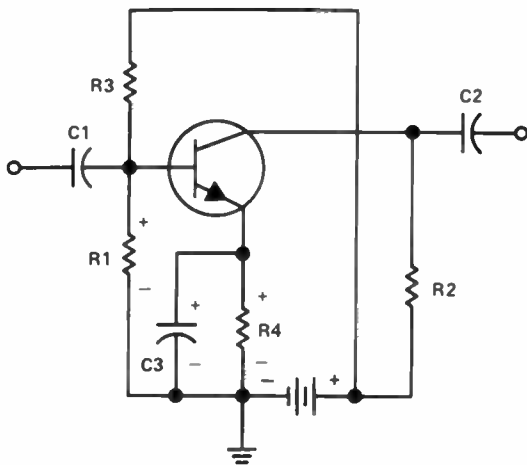
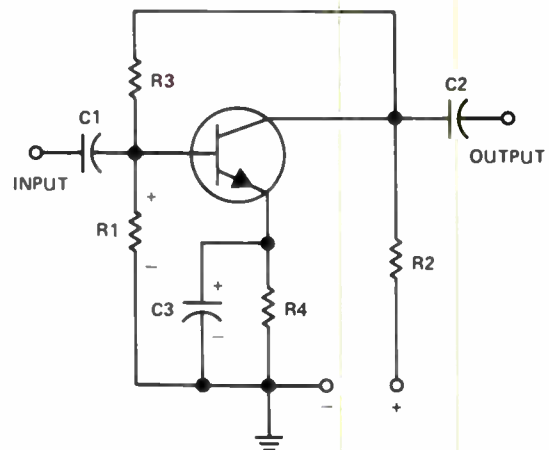
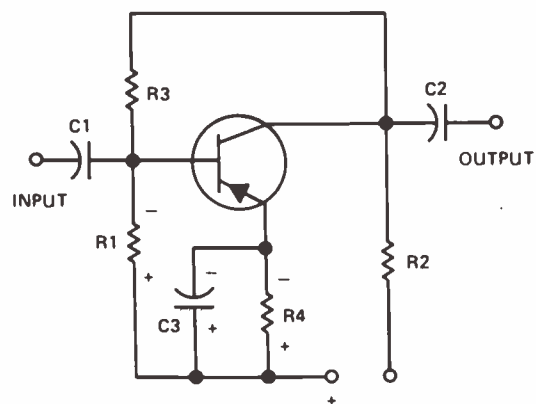
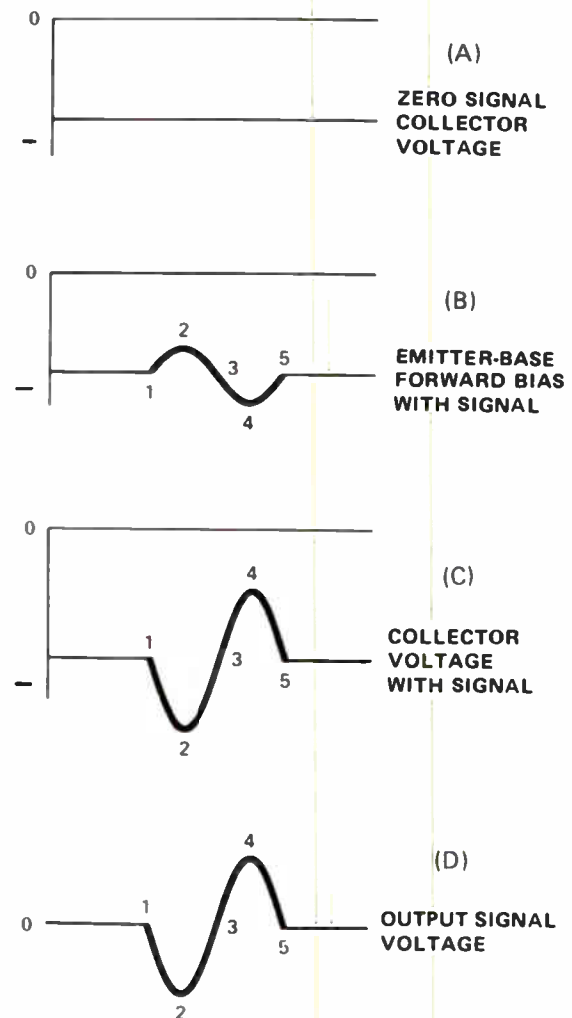

Figure 4. A common-emitter circuit with bias stabilization.
Figure 5. A common-emitter with degeneration.
Figure 6. A common-emitter circuit using a pnp transistor.
Figure 7. Waveform for Fig.6.
This problem can be avoided by adding R4, as shown in Fig.4. Notice that current flowing through R4 develops a voltage so that the emitter is slightly positive with respect to ground. If the minority carriers crossing the emitter-base junction cause the voltage drop across R1 to increase, any increase in majority carrier flow through the transistor increases the voltage drop across R4. Thus, both the base and the emitter of the transistor become more positive. The increase in positive voltage between the emitter and ground effectively cancels the increase in voltage between the base and ground, and stabilizes the bias. This prevents further increases in non-signal current through the transistor.
Another variation of the basic circuit is shown in Fig.5. Notice that we've eliminated the battery
It is important to notice that even though the voltage at the collector of the transistor is about half the voltage at the positive input terminal, we can still maintain a forward bias across the emitter-base junction simply by changing the values of R1 and R3. For that matter, just reducing the value of R3 will reduce the voltage drop across it so that we could maintain the base voltage in the circuit of Fig.5 at exactly the same value as the base voltage in the circuit of Fig.4.
Figure 6 shows the schematic diagram of a common-emitter amplifier using a pnp transistor.
Notice that the polarity of the voltage source is reversed so the positive terminal is grounded and negative voltage goes to the collector through R2. This reverses the polarity of the voltage across R1, so the base is negative with respect to the emitter, a necessary condition to forward bias the emitter-base junction of a pnp transistor. The polarity of the voltage across R4 indicates that electrons are leaving the emitter and flowing through the resistor to ground. Capacitor C3 is also connected with opposite polarity. R4 serves the same purpose as in the circuit of Fig.5. It stabilizes the forward bias across the emitter-base junction. R3 connects to the collector to introduce degeneration and reduce distortion.
Figure 7 shows waveforms for Fig.6. With zero signal input, the voltage between the collector and ground is negative and constant, and the base voltage is also constant. Figure 7(B) shows an input signal on the base of the transistor. When the input signal swings in a positive direction as it goes from point 1 to point 2, the negative polarity between the base and ground is reduced. This reduces the number of holes flowing across the emitter, across the emitter-base junction, across the base and base-collector junction to the collector. The number of holes reaching the collector decreases so the electron current flowing through R2 decreases. The voltage drop across R2 decreases, and the voltage between the collector and ground swings in a negative direction, as shown in Fig.7(C).
As the input signal drops from point 2 to point 3, the number of holes flowing through the transistor increases. Thus the current through R2 increases as the number of electrons flowing to fill the holes at the collector terminal increases. The net result is that the negative voltage between the collector and ground decreases as shown between points 2 and 3 of Fig.7(C).
When the input signal swings in a negative direction as it goes from point 3 to point 4 in Fig.7(B), the negative voltage between the base of the transistor and ground increases. This increases the forward bias across the emitter-base junction so the number of holes crossing the junction increases. The number of holes reaching
the collector increases, so the number of electrons flowing through R2 to the collector to fill these holes increases. When this happens, the voltage drop across R2 increases and the net voltage between the collector and ground becomes less negative. This is shown between points 3 and 4 of Fig.7(C).
Finally, as the input signal voltage swings from point 4 to point 5, the forward bias across the emitter-base junction decreases. This means that current flow in the transistor and through R2 decreases; the voltage drop across it decreases, and the collector voltage swings in a negative direction, as shown between points 4 and 5 in Fig.7(C).
If we measure the output voltage at the output end of C2, we see the waveform shown in Fig.7(D). The capacitor, C2, keeps the dc voltage present on the collector from appearing at the output. As the input signal goes through its cycle, it appears in amplified form on the collector, where it is superimposed on the dc collector voltage. However, the capacitor blocks dc voltage at the output, so we have only the amplified ac signal voltage.
Although conduction through the npn transistor in Fig.5 is by electrons, and conduction through the pnp transistor in Fig.6 is by holes, there are many similarities in the two circuits. First, in both cases we have a voltage gain, because the amplified output voltage is greater than the input voltage. Secondly, we have a current gain, since the amplified output current flowing in the collector circuit is much larger than the input current flowing in the emitter-base circuit. Further, notice that in both cases, the amplified output signal voltage is 180° out of phase with the input signal voltage.